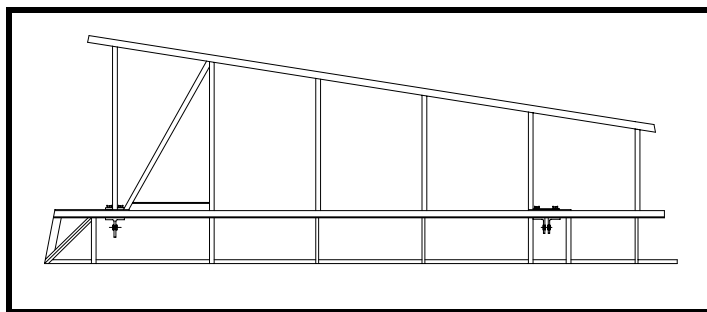

Figure 8
- ❑ Glue the trailing edge strip in place. See Figure 8.